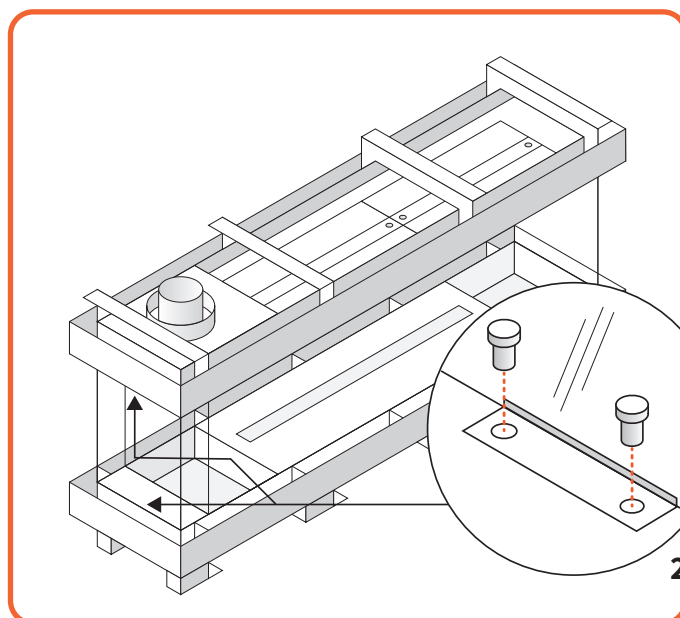
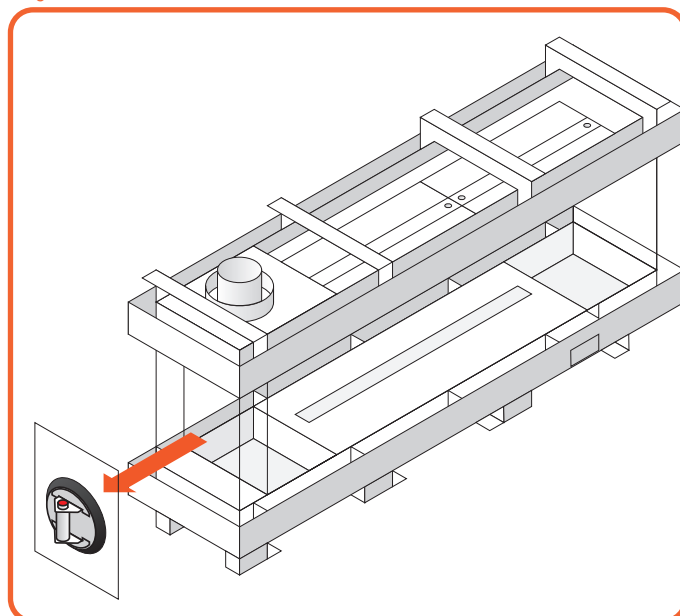

Figure 9.19 | Take out glass clamps for the side windows
Figure 9.20 | Take out short glass
- Repeat these steps as shown in Figure 9.19 to Figure 9.20 for the panes on the ends of the stove.